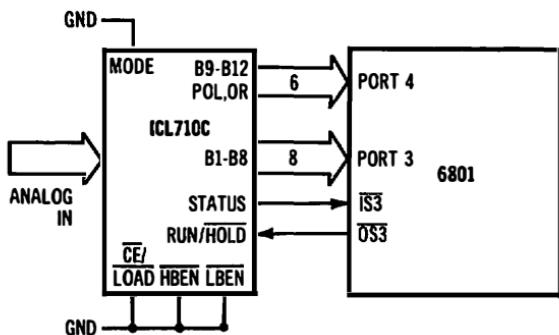

Fig. 8-11. Interfacing to the Intersil ICL7109 a/d converter.
Many input devices such as various types of sensors and transducers generate analog signals. Before the 6801 can process the signal, it must be converted to a digital data word. This conversion process is not a simple task if *you* must provide the external analog and digital circuitry as well as the software required for an accurate conversion. Fortunately, complete a/d converter chips are becoming increasingly available at low cost. Such a chip is the Intersil 7109. This device is a complete a/d converter that will convert an analog signal to a 12-bit binary word, plus a 2-bit indication for signal polarity and overrange. It will provide up to 30 conversions per second, and can be operated in a partial or complete hand-shaking mode. Fig. 8-11 shows one way in which the 7109 can be interfaced to your 6801 system. Given an analog input signal, the 7109 will provide 14 bits of output data to ports 3 and 4 of the 6801. Twelve data bits (B1-B12) plus a polarity (POL) bit and overrange (OR) bit. The 12 data bits are divided into a low-order data byte (B1-B8) and high-order data byte (B9-B12). The low-order byte is connected to port lines P30-P37 and the high-order byte connected to P40-P43. Therefore, both ports must be configured as input ports. The control register for port 3 can be set up such that
$\overline{IS3}$ will be activated and generate an interrupt request on a high-to-low transition of the 7109 STATUS pin. With RUN/HOLD held high, the 7109 will be allowed to RUN and provide continuous conversions by interrupting the 6801 via the $\overline{IS3}$ line when each conversion becomes available. Complete handshaking can be provided by connecting the RUN/HOLD line to OS3 of the 6801 as shown in Fig. 8-11. The 7109 also contains an output latch such that the data will not be lost before the 6801 acknowledges the interrupt. Consult the 7109 specification in Appendix B for other methods of interfacing and more chip detail.